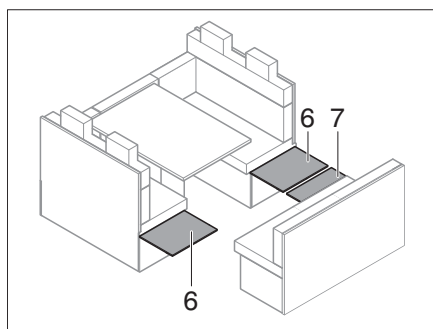

Fig. 197 Folding out side panels
- Fold out the seat bench side panels (Fig. 197,6) and seat bench front panel (Fig. 197,7).